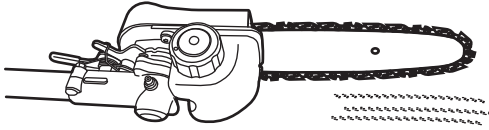

Fig. 13c
2. Start the engine; keep it running at medium power and check if the chain oil is delivered as shown in the figure. (See Fig. 13c)